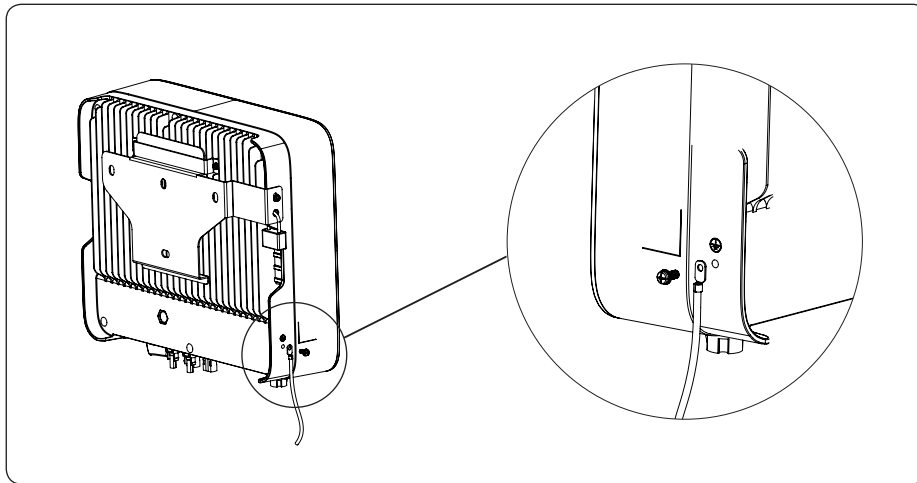

Figure 4-19 Grounding terminal connection
- 2) Fix the grounding terminal to the PE wire with a proper tool and lock the grounding terminal to the grounding hole in the lower right side of the inverter, as shown in Figure 4-19.